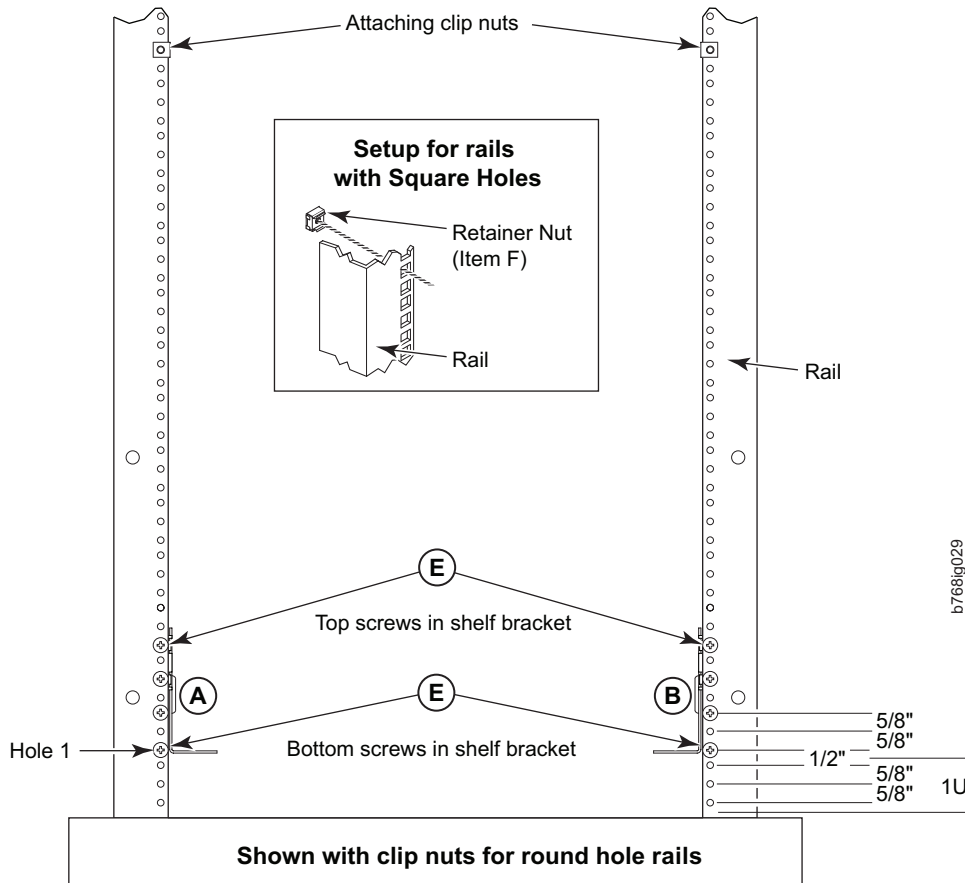
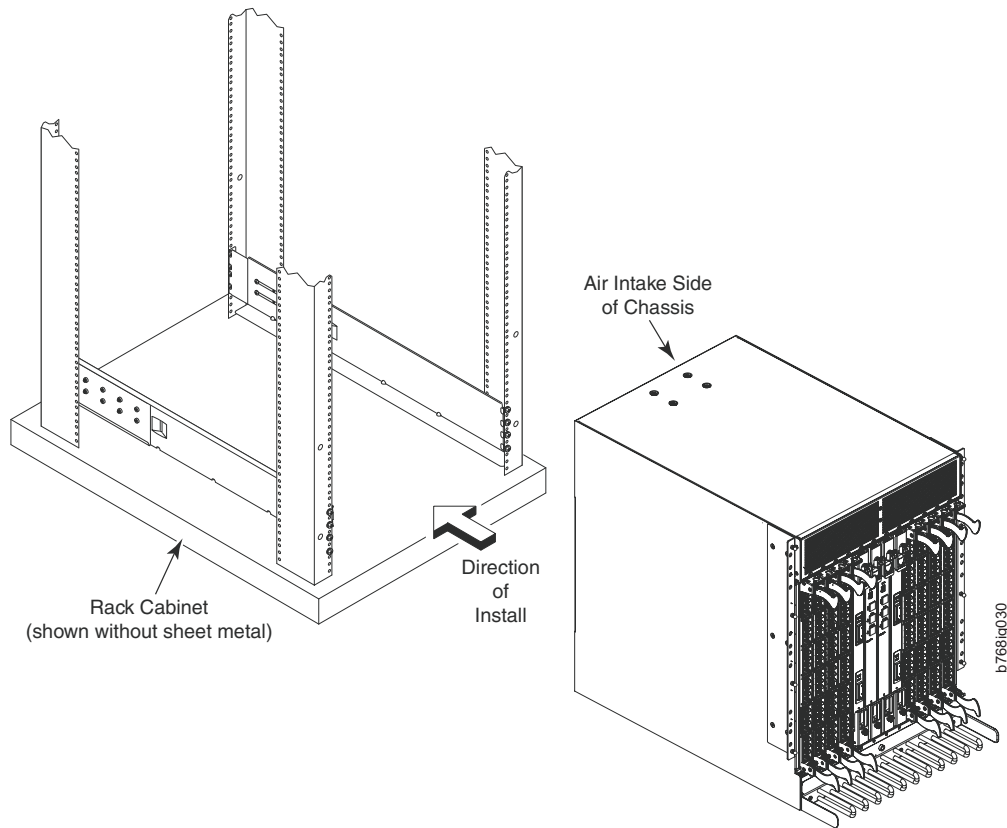

Figure 5. Installing clip or retainer nuts on the vertical cabinet rails
Figure 7. Chassis installation from rear (exhaust aisle side) of the cabinet
5. Attach the clip nuts **D** (for rails with round holes) or retainer nuts **F** (for rails with square holes) to the vertical rails on the exhaust aisle side of the cabinet (see Figure 5). These nuts are used for securing the port side of the chassis to the rack rails using 10-32 x 5/8-inch screws. Use three nuts on each rail. Place the nuts in optimum locations for securing the chassis to the rails. See Figure 7 on page 24 for approximate positions.
7. Move the lift tool to a position near the rear of the cabinet. See Figure 7 on page 24.